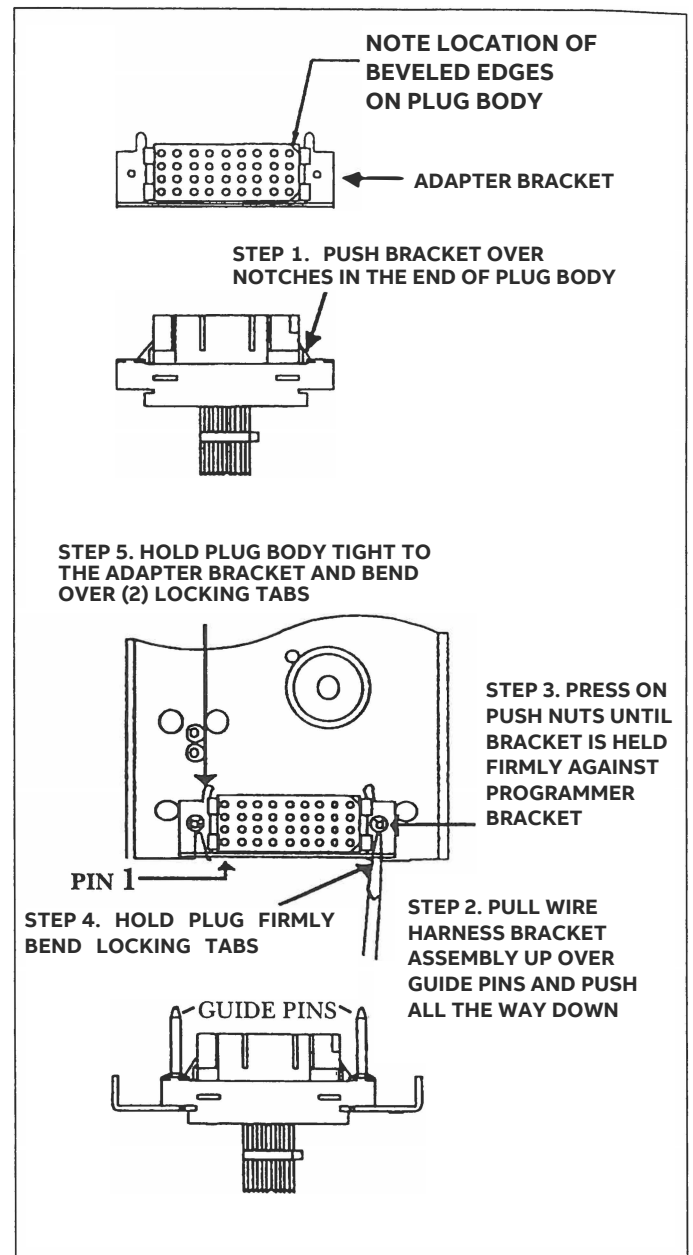

Fig. 3-11. Programmer Harness Connector
Assemble the adapter bracket to the 3 6-pin programmer connector (with bevels to right side) by pushing the bracket over the notches in ends of plug body (Step 1) . Follow Steps 2 through 5 of Fig. 3-11 to complete assembly of programmer harness to programmer bracket.
**CAUTION:** The adapter bracket must be installed onto harness plug as shown in Fig. 3-11. Failure to do so will result in harness plug failure and programmer will not provide any protection.